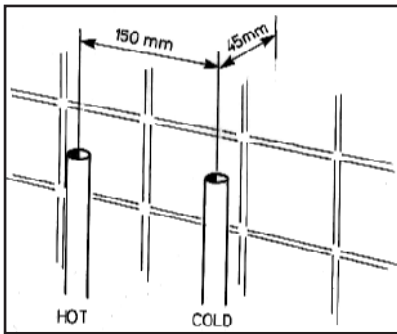

Fig.3. Bottom Entry
- If the supply pipes are to be fixed to the tiled surface they must enter the shower unit from below at 150mm centres with hot on the left and cold on the right, please refer to Fig 3 Bottom Entry. The pipework needs to be 45mm from the face of the tile to the centre of the pipe.